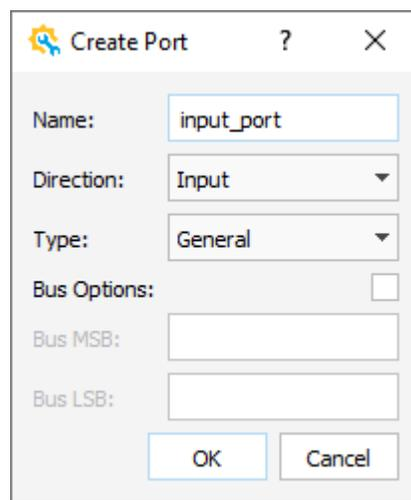

Figure 2.53. Create Port Dialog Box
- a. Right-click in the Schematic view, and choose **Create Port**. The Create Port dialog box pops up (Figure 2.53).